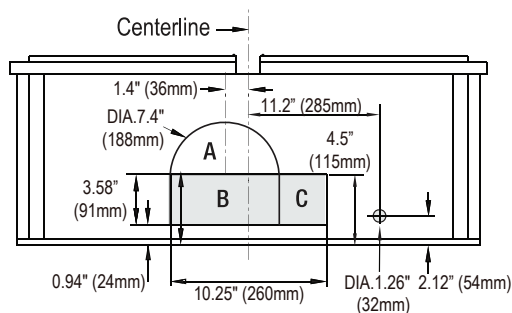
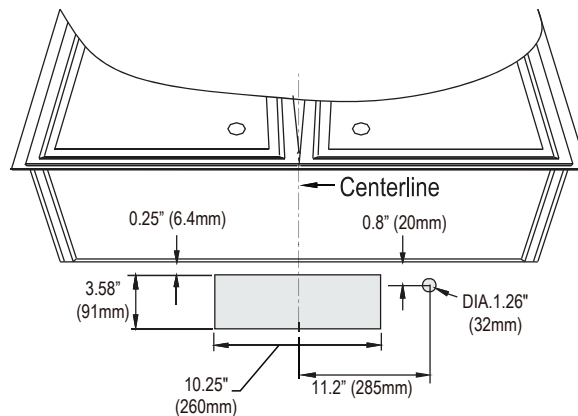

Fig. 3: Top Venting Option
Fig. 4: Back Venting Option
- Determine if your existing venting system is top venting or back venting, and ensure that the openings in the cabinet or wall for the damper and for power access are in appropriate locations and are of appropriate sizes, as per Fig. 3 if it is top venting or Fig. 4 if it is back venting. For top venting option (Fig. 3), if you are using the round adapter, the opening should be A and B only. If you are using the rectangular damper, opening should be B and C only.